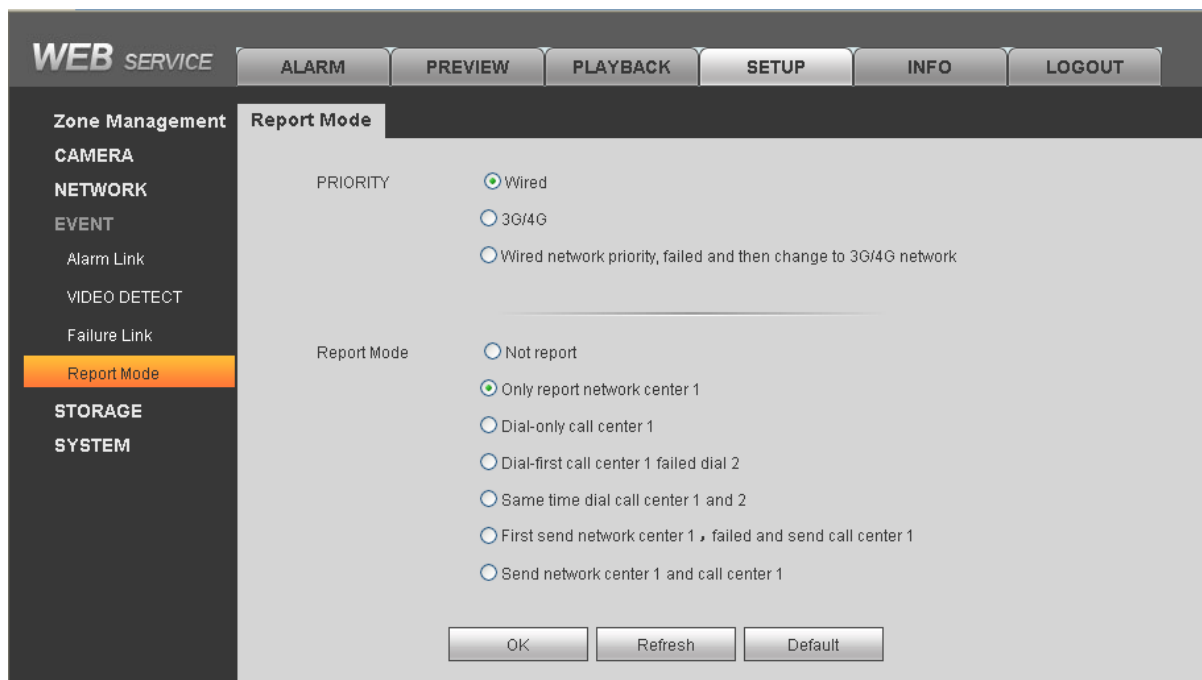

Figure 4- 17
Step 1. Select SETUP>Event>Report Mode. See Figure 4- 17.